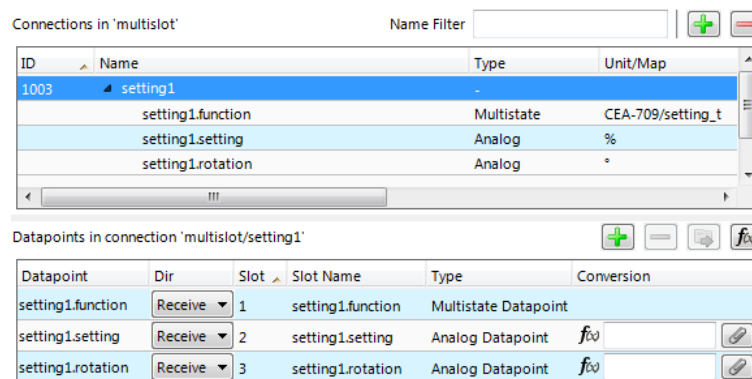

Figure 81: Multi-slot connection.
4. A multi-slot connection is created as shown in Figure 81. The multi-slot connection can be collapsed or expanded. In the expanded view it shows all slots. Select the top-level multi-slot connection to view all data points in the connection. Select a single slot beneath to view only data points in that slot.